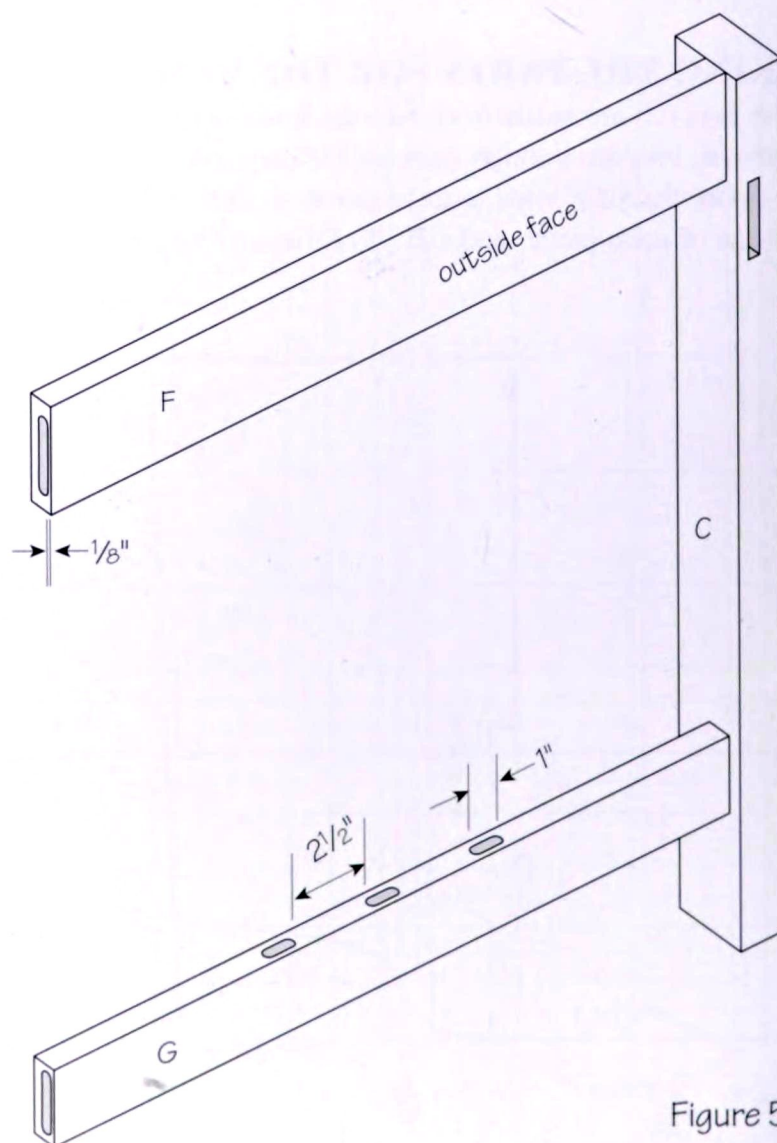

Figure 5
9. Sand all faces of the legs (C), taking care to keep the joint areas flat. Finally, chamfer all four long corners of each leg $\frac{1}{8}$ ".
10. Prepare greenheart stock for the long aprons (E) and the short aprons (F). Thickness all four pieces to $\frac{13}{16}$ ", and rip and joint all four pieces to $3\frac{1}{2}$ " wide. Cut the long aprons to $42\frac{3}{4}$ ". Cut the short aprons to $22\frac{3}{4}$ ".
11. Choose and mark the outside face of each apron. Cut $\frac{3}{8}$ " thick by $2\frac{1}{2}$ " wide by $1\frac{1}{2}$ " deep mortises in both ends of each apron. The mortises should be centered widthwise and should begin $\frac{1}{8}$ " from the outside face of the aprons. Refer to figure 5.
14. Prepare greenheart stock for the stretchers (G). Thickness both pieces to $\frac{13}{16}$ ", and rip and joint both pieces to 2 $\frac{1}{2}$ " wide. Cut the stretchers to 22 $\frac{3}{4}$ ".
15. Choose and mark the outside face of each stretcher. Cut $\frac{3}{8}$ " thick by 2" wide by 1 $\frac{1}{2}$ " deep mortises in both ends of each stretcher. The mortises should be centered widthwise and should begin $\frac{1}{8}$ " from the outside face of the stretchers. Refer to figure 5.
16. Stack the short aprons (F) and the stretchers (G), ends even, so that the bottom edges of the aprons and the top edges of the stretchers are flush and facing you. Measure 11 $\frac{3}{8}$ " from either end to mark the center, lengthwise. Measure $\frac{1}{2}$ ", 3", and 4" out from the center on both sides to mark the lengths of the three slat mortises. Square those lines across the edges to mark all 12 mortises. Cut $\frac{3}{8}$ " mortises, 1" deep, and centered thickness-wise, in all of the marked, 1" long spaces.
17. Sand the faces and edges of the short aprons (F) and stretchers (G) to 220, being careful to keep the mortised edges flat and square. Chamfer the long corners $\frac{1}{16}$ ".
18. Flatten, thickness, joint, and rip pernambuco stock for the six slats (H), then cut them to length. Cut $\frac{3}{8}$ " mortises, 1" deep and 1" long, centered both ways, into the ends of the slats.
19. Sand the faces and edges of the slats (H). Chamfer the long corners $\frac{1}{16}$ ".